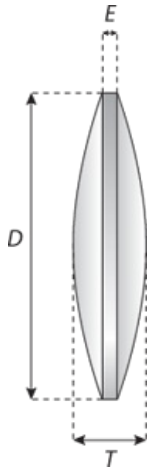

Figure 8.8: Converging lens, edge-on.
- 2 Use the digital callipers to measure the diameter D , the thickness T and the edge thickness E as shown in Figure 8.8.